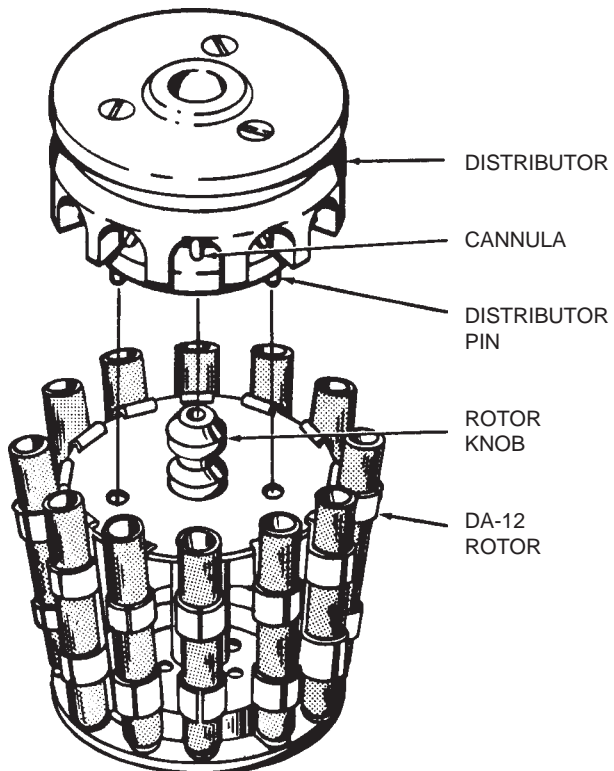

Figure 2-3. Distributor Installation
- Make sure the distributor is firmly seated on the rotor with the distributor pins completely engaged in the rotor (see figure 2-3).
Place the Distributor (catalog number 43260, supplied) over the rotor knob (see figure 2-3). Turn the distributor until its three pins engage the three holes in the rotor. Press the distributor down until it is completely seated on the rotor.